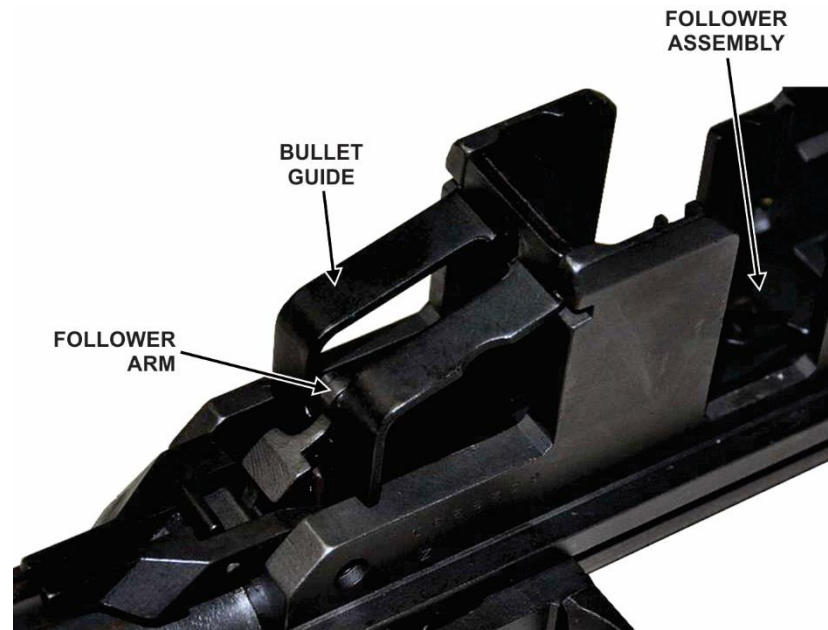

Figure 48. Follower arm engaged
- 15) Align the holes in the operating rod catch assembly, follower arm, and bullet guide with those in the receiver and push the follower arm pin through from the operating rod side (figs 48 and 49).